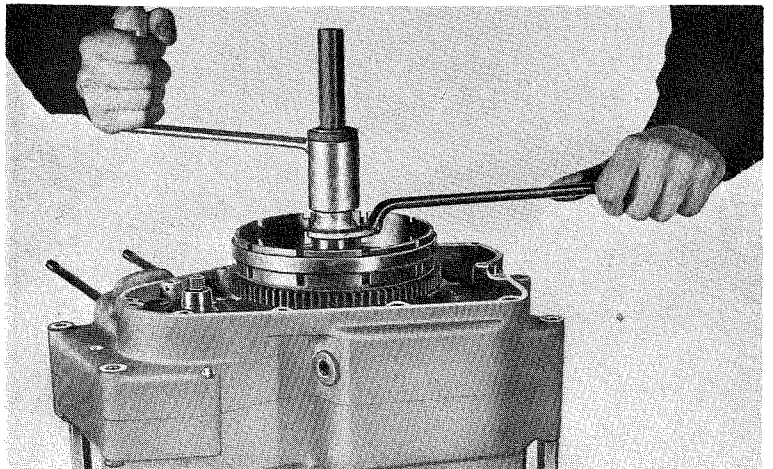

Fig. 9
9. Fit the clutch ring with the aid of assembly tool No. 15 19 251-01. See Fig. 9.